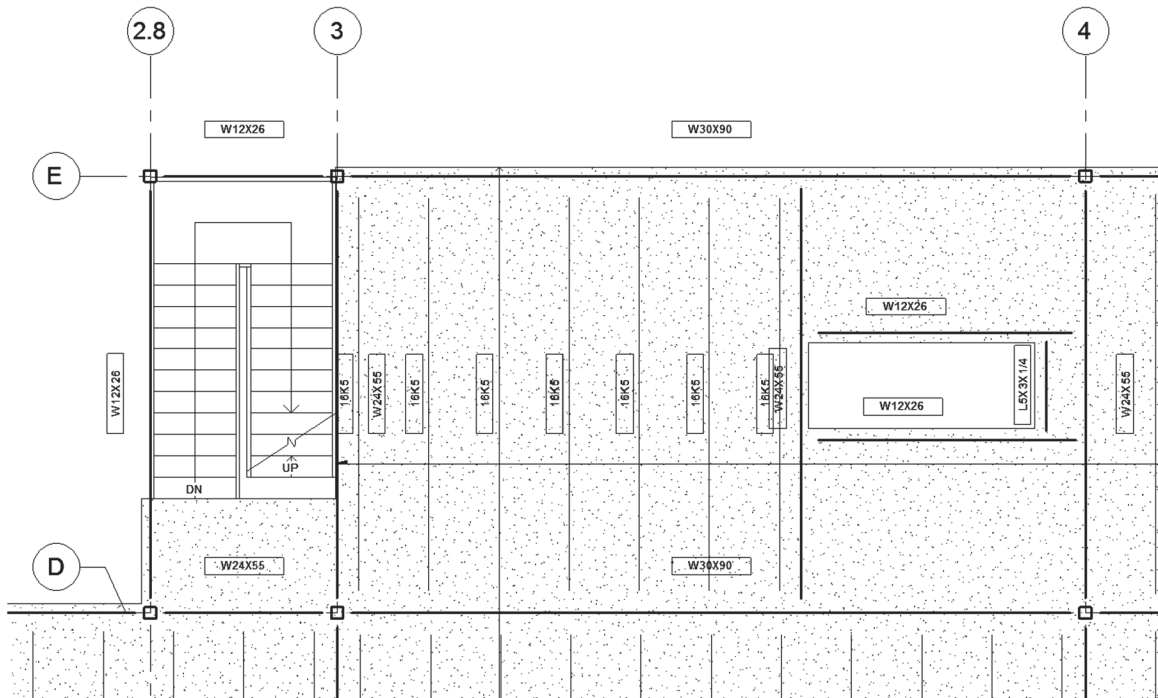

FIGURE 7-4.17 Beam System completed using the manual sketch technique
41. Pick the other three beams to define the bay (Figure 7-4.17).
The *Beam System* is now placed as desired in your Building Information Model (BIM), as you can see in Figure 7-4.17. You now only have two small areas to the East in which to place joists and Level 2 is then complete.